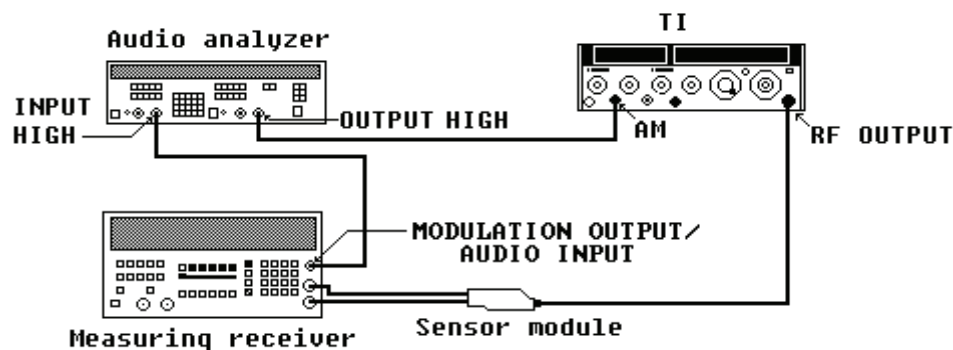

Figure 7. AM flatness - equipment setup.
- (1) Press **INSTRUMENT PRESET** on measuring receiver, then set to measure AM.
- (2) Position TI controls as listed in (a) through (e) below.
- (3) Connect equipment as shown in figure 7.